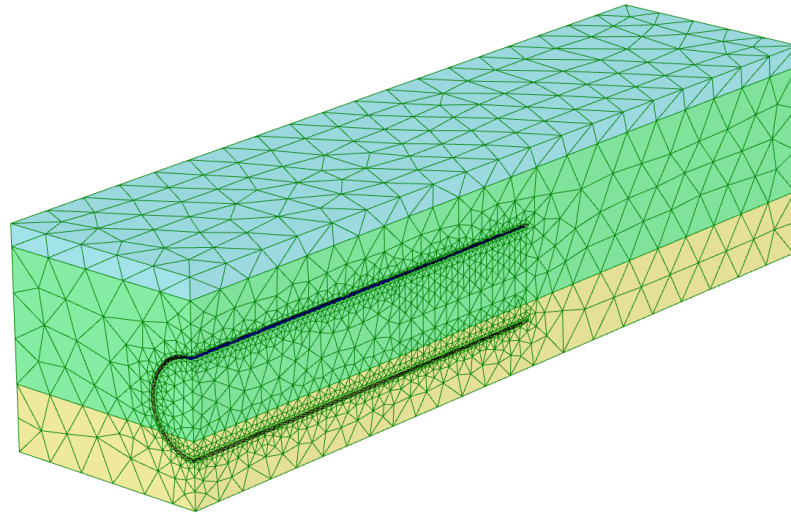

Figure 82: The generated mesh
2.  Click the **View mesh** button to inspect the generated mesh(Figure 82 (on page 108)).